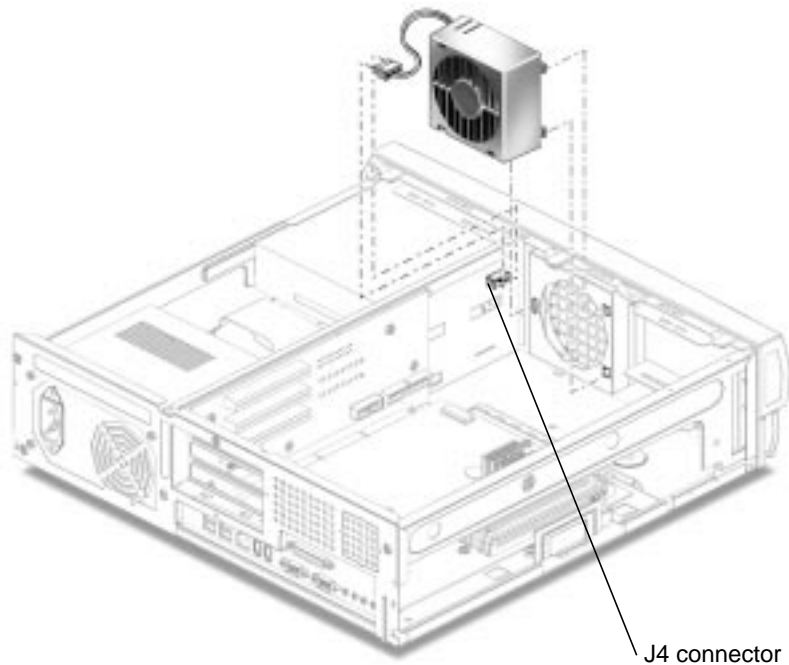

FIGURE 6-10 Removing and Replacing the Fan Assembly
3. Disconnect the fan assembly power cable connector from riser board connector J4 (FIGURE 6-10).
1. **Position the fan assembly, ensuring that the fan retaining tabs are aligned with the chassis retaining slots (FIGURE 6-10).**